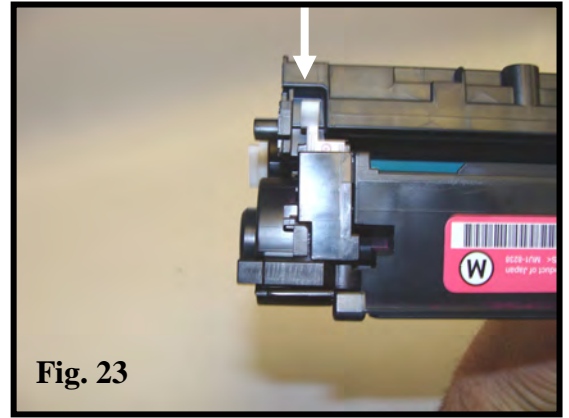

Fig. 23
23. On the opposite side make sure the white arm from the toner section is aligned with the opening on the drum section (Fig. 23). Install the end cap and secure with two screws.